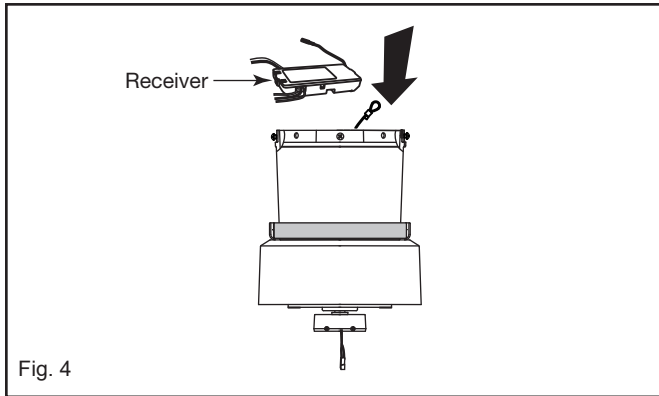

Fig. 4
Step 1. Insert the receiver into the adapter housing. (Fig.4)